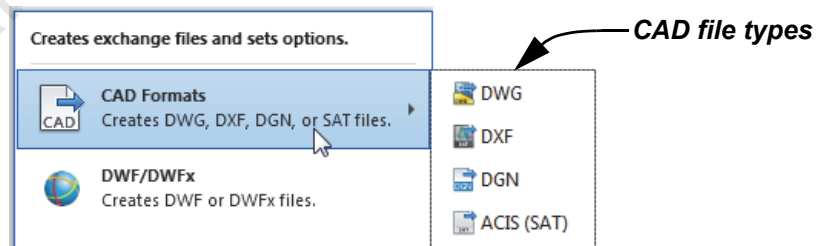

Figure 1–77
2. In the *File* tab, expand  (Export), click  (CAD Formats), and select the type of format you want to export, as shown in Figure 1–77.